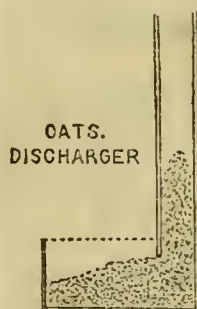

Fig. 21.
O. is a bin for oats, directly over the horse stable, filled through the trap door above, and communicating with the stable by the self-feeding discharger, fig. 21, which may have a cover and be locked. The bottom of the oats bin should be hopper shaped, that all may be drawn off. If the bottom has a slope of one foot in two, the grain will all slide out freely.